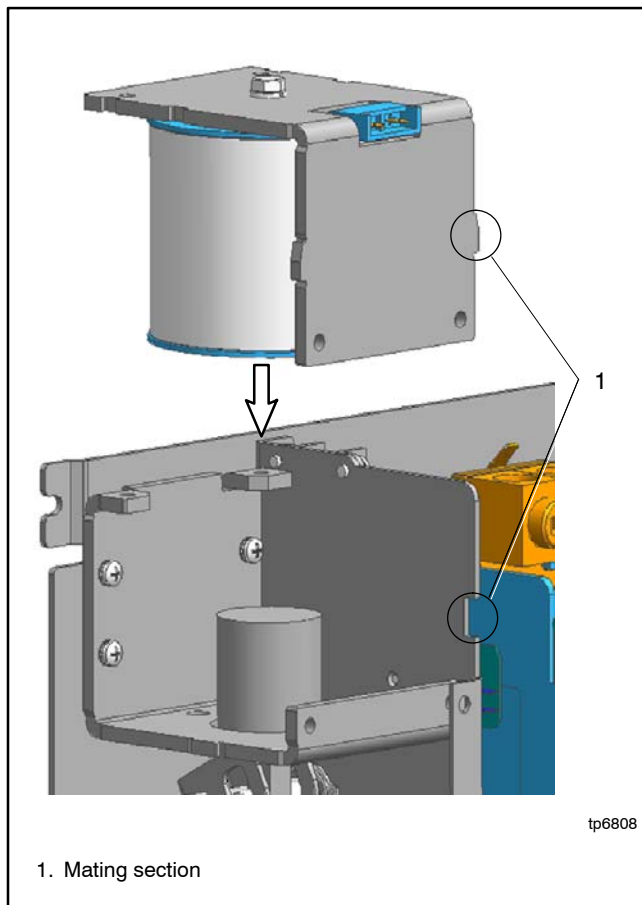

Figure 7-60 Install Coil Assembly
3. Place the coil assembly made in step 2 into the body. Be sure that the coil assembly fits perfectly into the body at the mating section. See Figure 7-60.